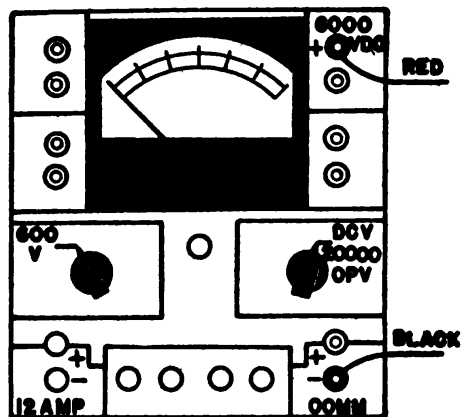
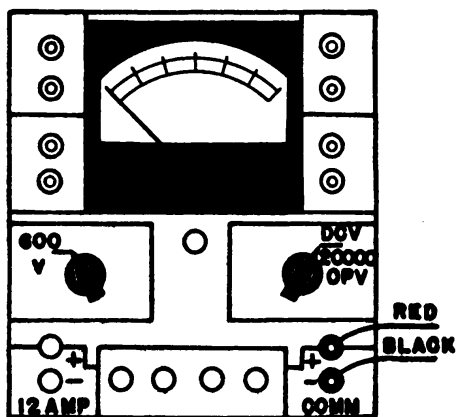

FIG. 5C: O-1200 V, O-6000 V,
FIG. 5B: O-3V, O-12V, O-60V,
**a.** When using 0-1,200 volts and 0-6,000 volts d-c ranges at 20,000 ohms-per-volt, see figure 5C for switch positions and jack connections, and proceed as follows:
(1) Observe the precautions for voltage measurements, particularly the high-voltage precautions.
(2) Set circuit switch to D.C.V. 20,000 O.P.V.
(3) Set the range selector switch to 600 V. position.
(4) Insert the black test lead into the —COMMON tip jack and the red test lead into either the +1,200 V.D.C. or +6,000 V.D.C. jacks, 20,000 ohms-per-volt d-c, depending upon the range desired.
(5) For the 0-1,200 volt range, multiply reading on black 0-12 d-c scale by 100.
(6) For the 0-6,000 volt range, multiply reading on black 0-60 d-c scale by 100.
**b.** When using 0-3, 0-12, 0-60, 0-300, or 0-600 volt d-c range at 20,000 ohms-per-volt see figure 5B and table I for switch positions, meter scales, and jack connections, and proceed as follows:
- (1) Observe the cautions for voltage measurements.
- (2) Set the circuit selector switch to D.C.V. 20,000 O.P.V. position.
- (3) Set the range selector switch as follows: